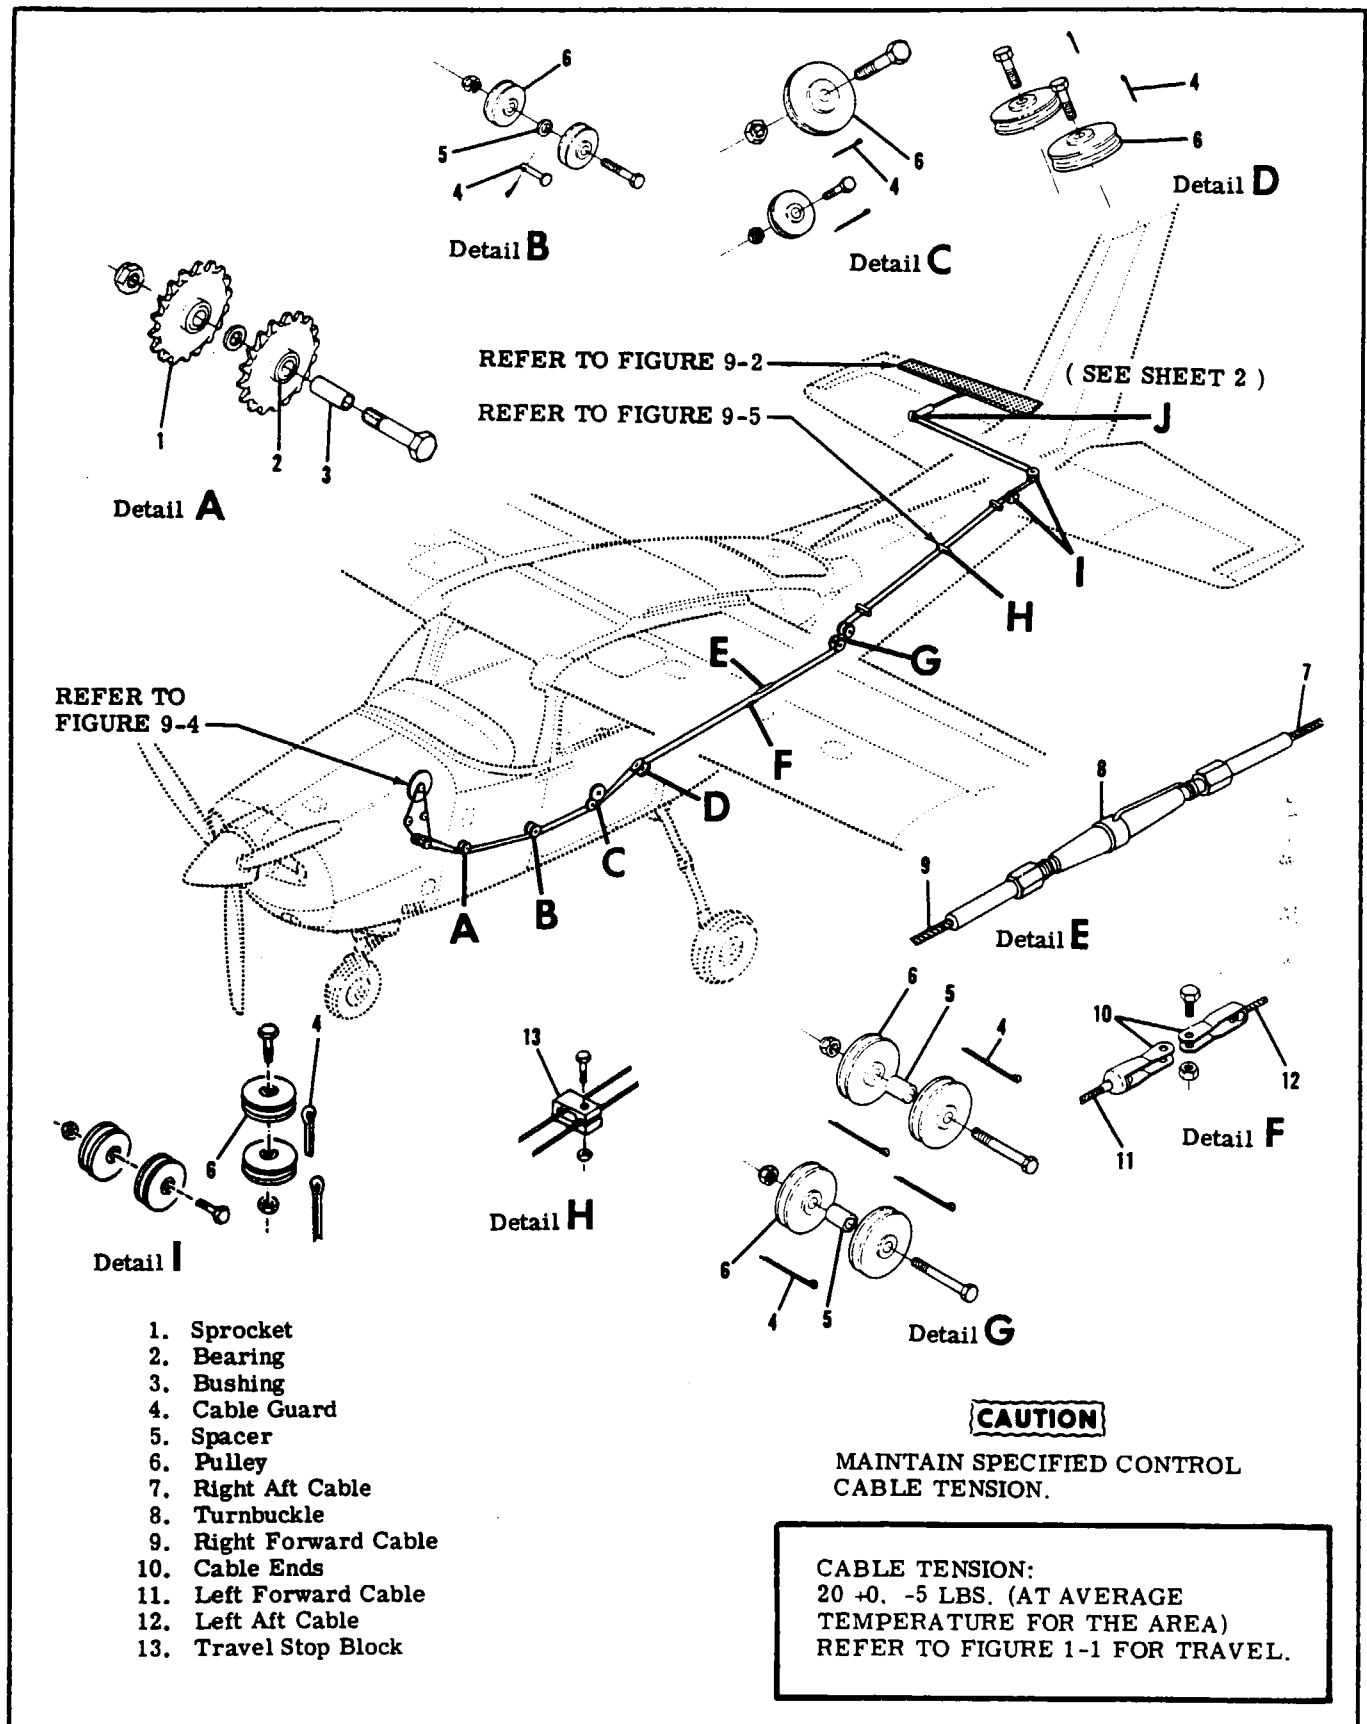
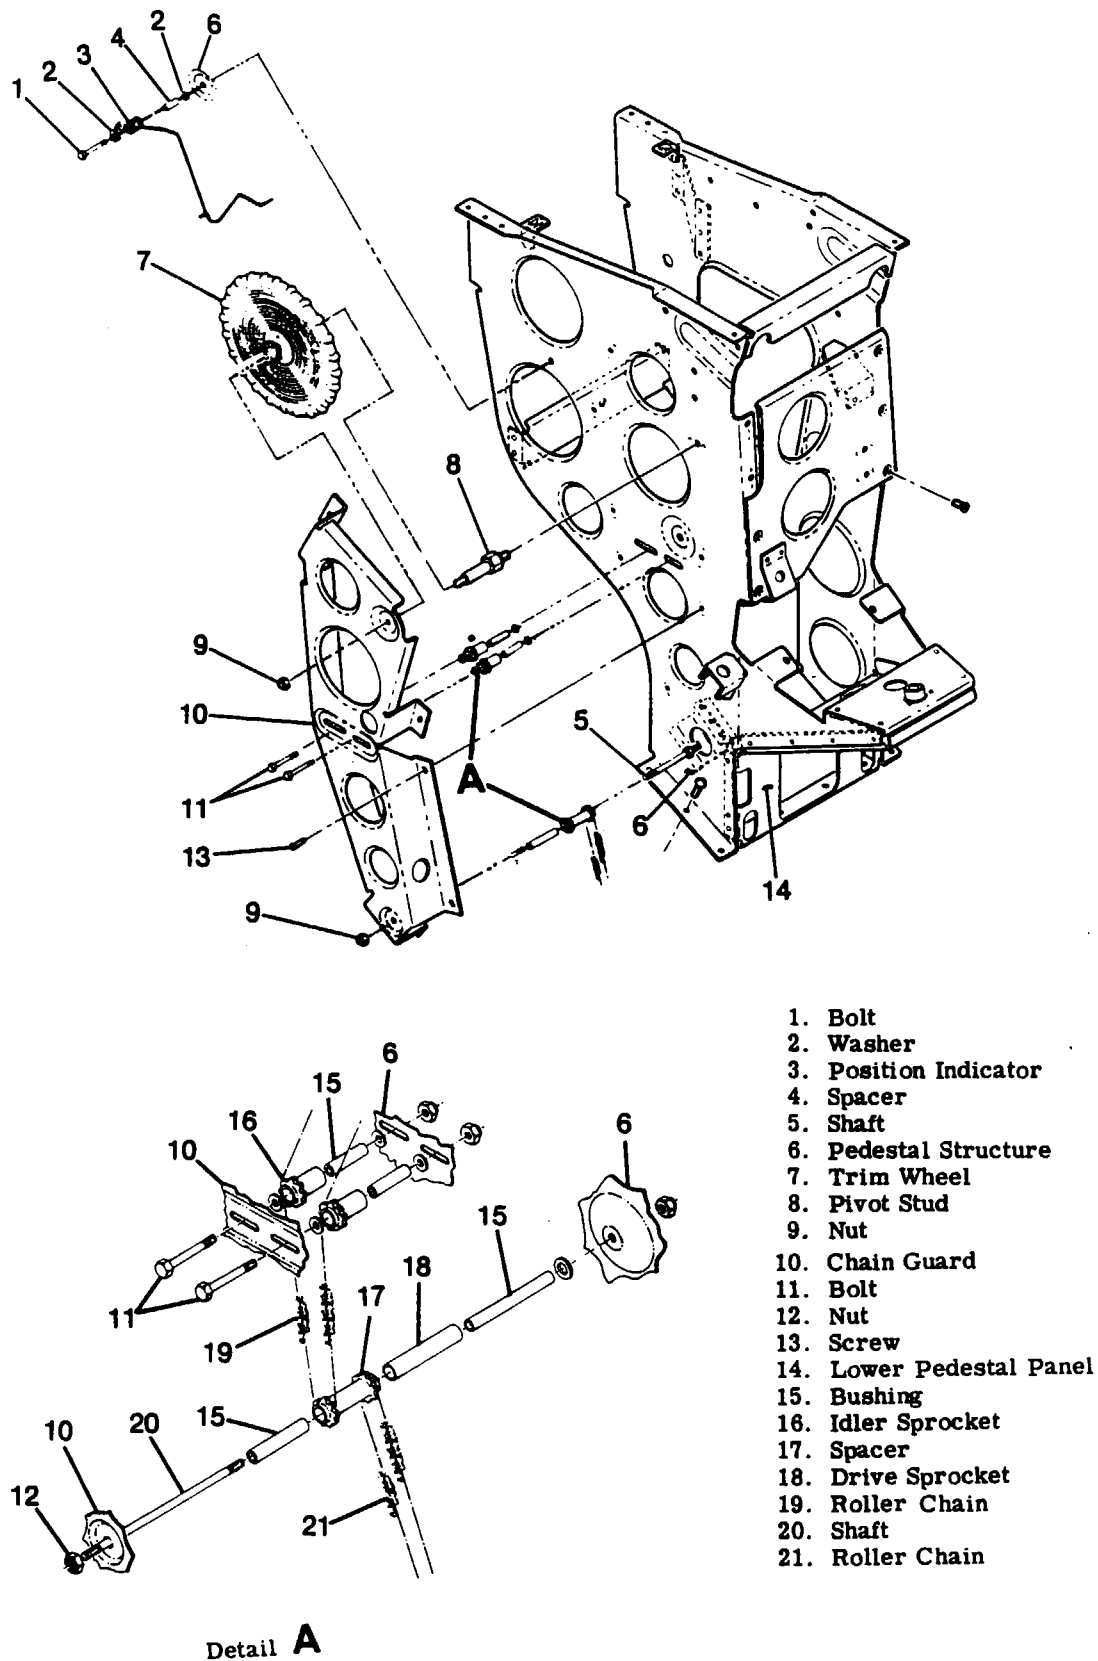

Figure 9-1. Elevator Trim Tab Control System (Sheet 1 of 2)
Figure 9-4. Elevator Trim Wheel Installation
9-8. TRIM TAB CONTROL WHEEL. (Refer to figure 9-4.)
a. FORWARD CABLE. (Refer to figure 9-1.)
2. Remove safety wire, relieve cable tension and disconnect turnbuckle (8).
3. Disconnect cable ends (10).
4. (Refer to figure 9-4.) Remove pedestal cover as outlined in paragraph 9-14.
5. Remove lower pedestal panel (14) and disengage roller chain (21) from drive sprocket assembly (18).
- e. (Refer to figure 9-4.) Rotate trim control wheel (7) full forward (nose down). Ensure pointer (3) does not restrict wheel movement. If necessary to reposition pointer, proceed as follows:
2. Loosen nut (9) at trim wheel pivot stud (8).
3. Loosen screws (13) securing chain guard (10) far enough that trim wheel (7) can be moved approximately 1/8 inch, then reposition pointer (3) using a thin screwdriver to pry trailing leg of pointer out of groove in trim wheel. Reposition pointer as required.
4. Tighten nut (9) and screws (13) but do not reinstall pedestal cover until rigging is complete.